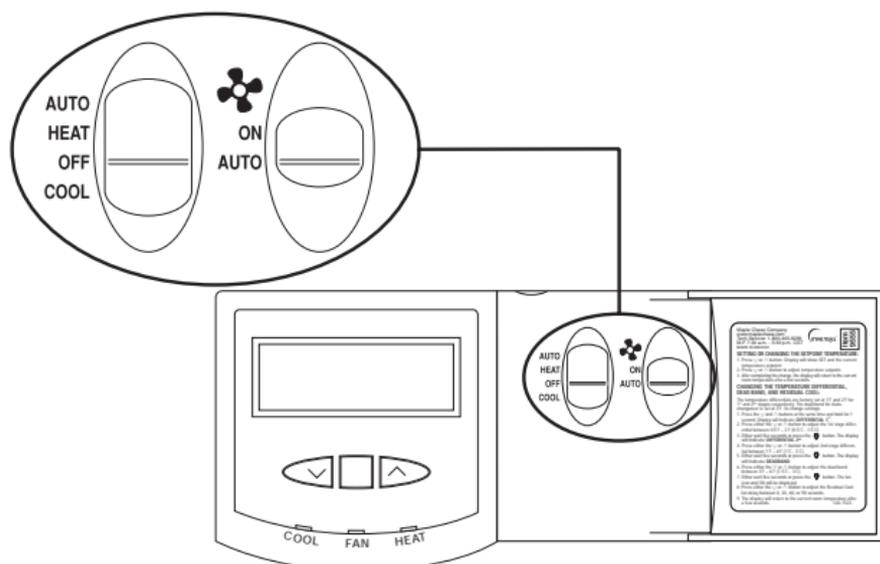

Figure 2
2. Place AUTO-HEAT-OFF-COOL in OFF position (Figure 2).
3. Place  -ON-AUTO switch into AUTO position (Figure 2).